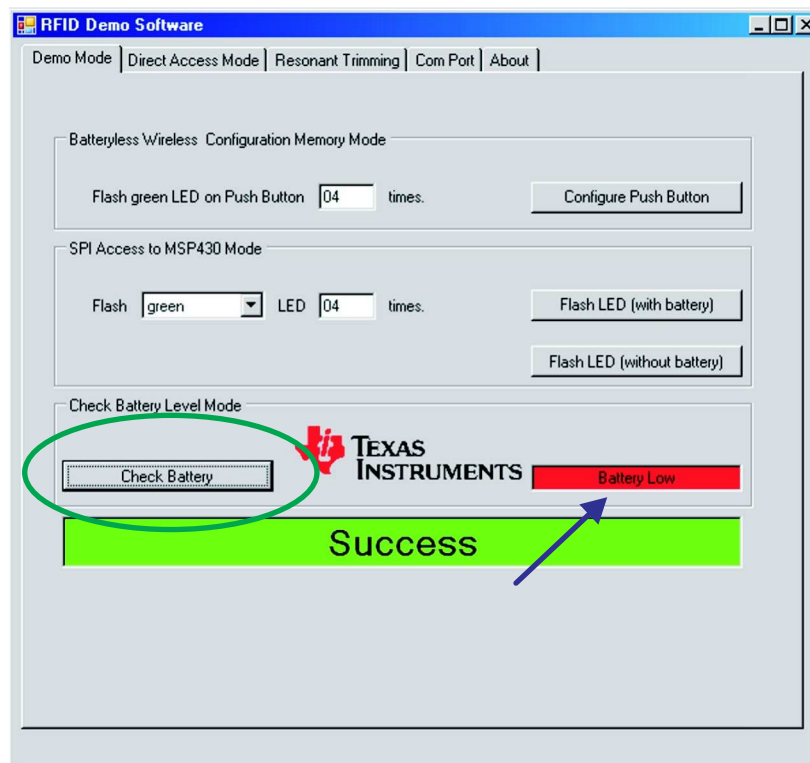

Figure 25. Demo 3 - Check Battery Level Mode: Low
- Red: Low voltage (see Figure 25)